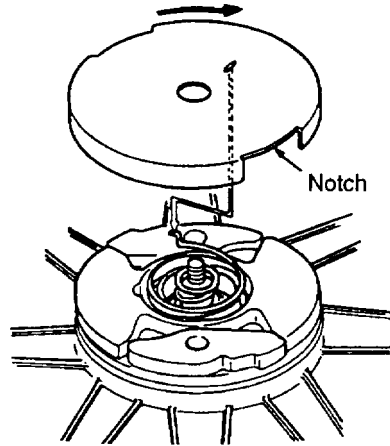

Figure 6-34 Recoil starter assembly
- 3) Hold the starter rope as shown in Figure 6-34. Wind it 4 turns in the arrow direction while securely holding the reel so that the rope may not be reversed. Lead the starter rope from the inside to outside. Slowly turn the reel in reverse.